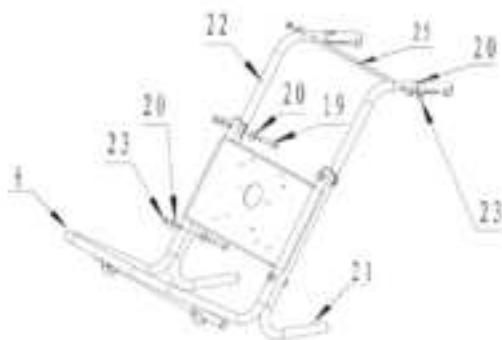

Fig.2
Assemble reinforcing pole (25) between the two handles (22) using nuts (23). Secure handles (22) and rear stand legs (21) with chassis (8) using bolts (19) washers (20) and nuts (23). (Fig.2)